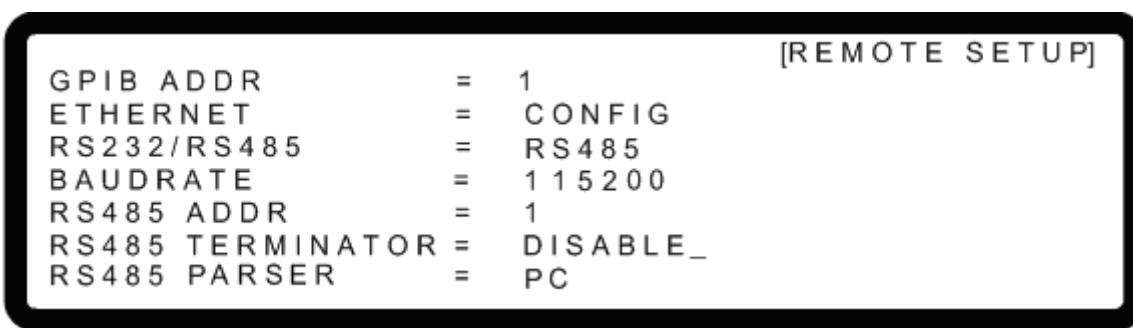

Figure 3-154
1. Use the “, ” keys to move the cursor to the RS485 TERMINATOR column as shown in Figure 3-154.